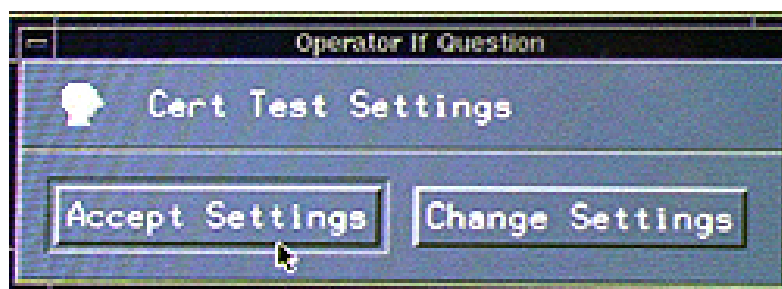

Figure 7
- 7.12 The “Operator If Question Cert Test Settings” screen will appear. See Figure 7. Click on the “Accept Settings” button if no changes are needed. If you need to change any inputs, click on the “Change Settings” button.